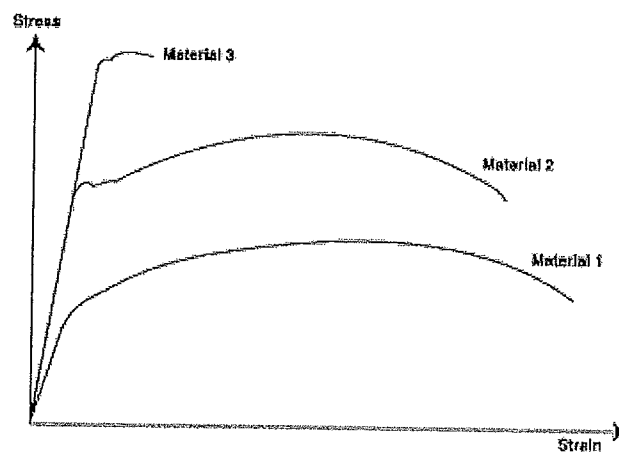

Figure 1 : Tensile Stress-Strain curves for Materials 1, 2 and 3
- [b] Figure 1 presents the tensile stress-strain curve for 3 materials ; Material 1, 2 and 3. **Compare** between the 3 curves and **explain** the relevant properties of the 3 materials (i.e what do these 3 curves give).